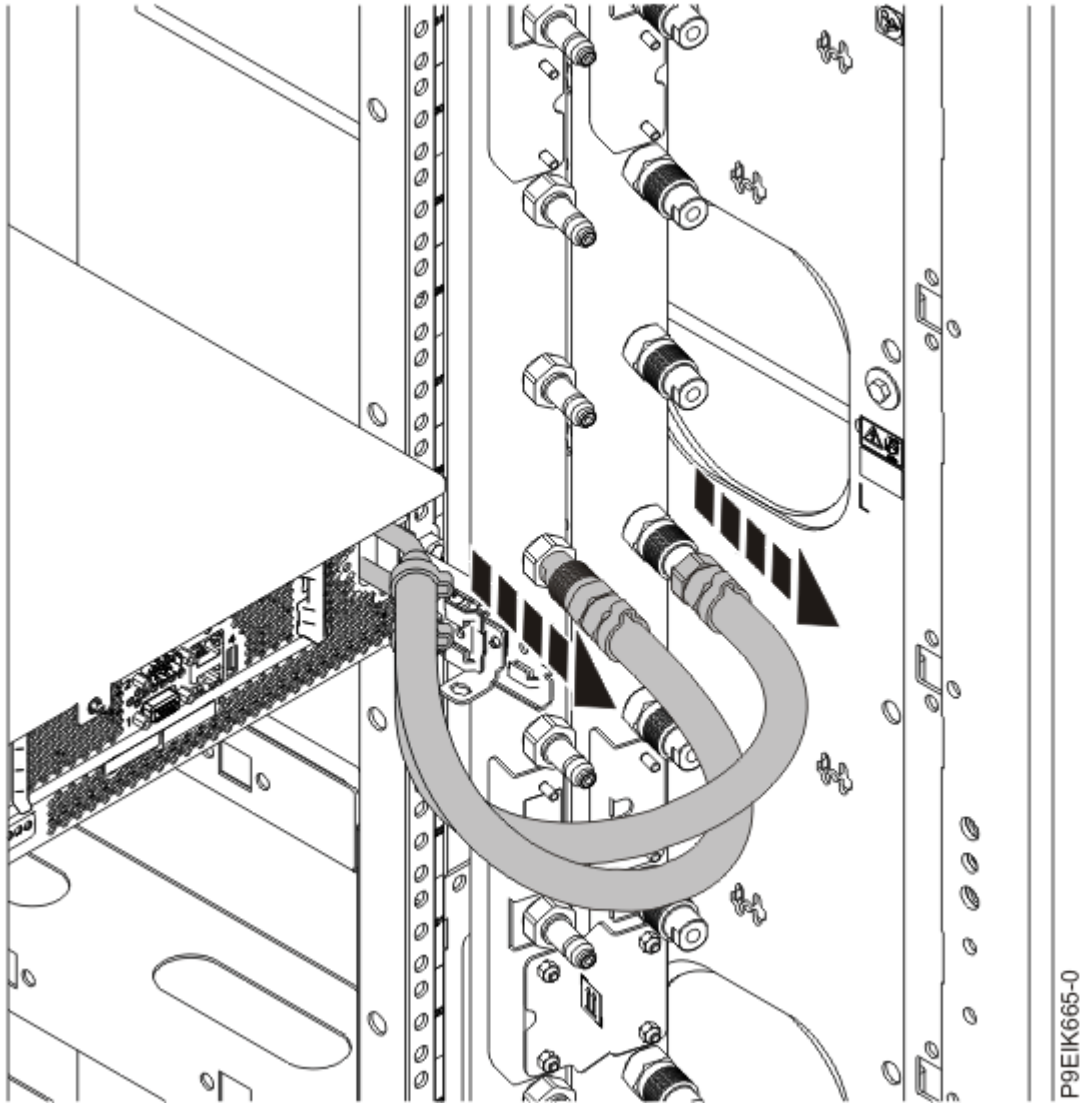

Figure 179. Disconnecting the water hoses
8. Label and disconnect the water hoses at the manifold for each server in the rack. Pull the coupling toward you to disconnect the water hoses as shown in Figure 179 on page 197.